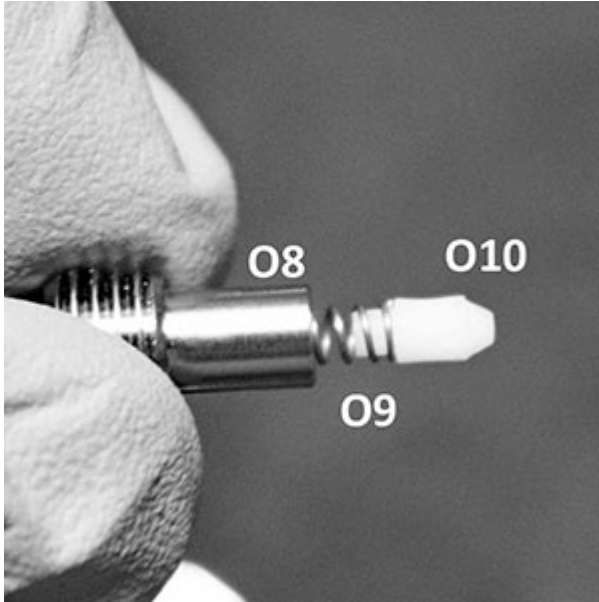
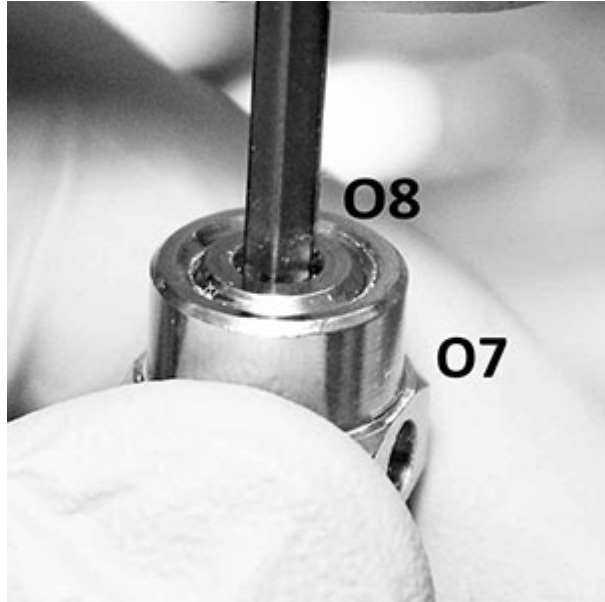

Fig.42
Fig. 43
15. **This step is optional. Ideally, when the regulator is serviced, the OPV should be replaced.** If the OPV is not being replaced and servicing is required, use the Bullet (O10) from the service kit. Place the new Bullet into the Spring (O9), screw the assembly in flush in the OPV Housing (O7) - Fig. 42. Use another adjustable first stage set to 140 psi intermediate pressure to calibrate the setting of the OPV, then install it into the first stage. Calibrate it to begin to release at 140 psi then turn it an extra 1/4 turn - Fig. 43.